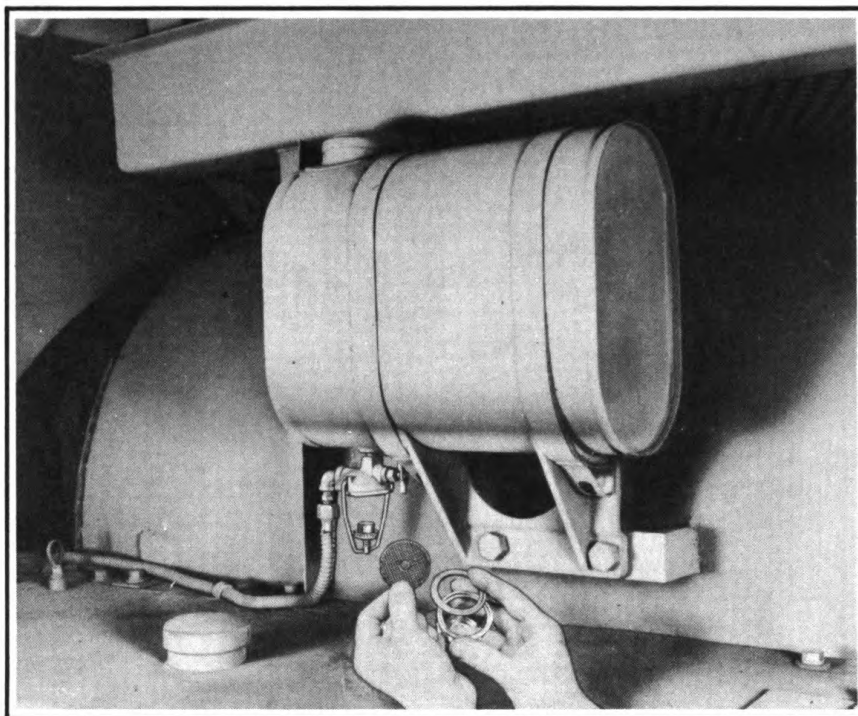

FIG. 50 Removing Engine Fuel Strainer
7. Fuel Strainer (See Fig. 50)